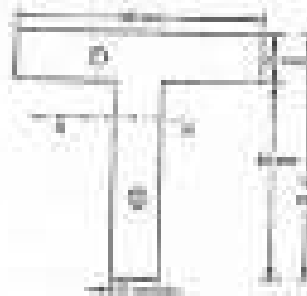

Fig. 3
- Q3) A cast iron beam is of T section as shown fig. 3. The beam is simply supported on a span of 8 m . the beam carries UDL of 1.5 kN/m on the entire span. Determine maximum tensile and maximum compressive strength. [16]